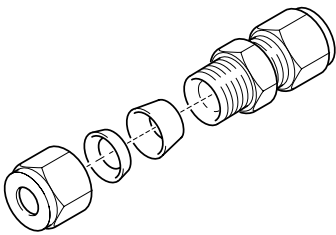

Figure 2-46.
- a) Put the fitting together loosely ensuring that the ferrules are properly oriented (see figure 2-46).